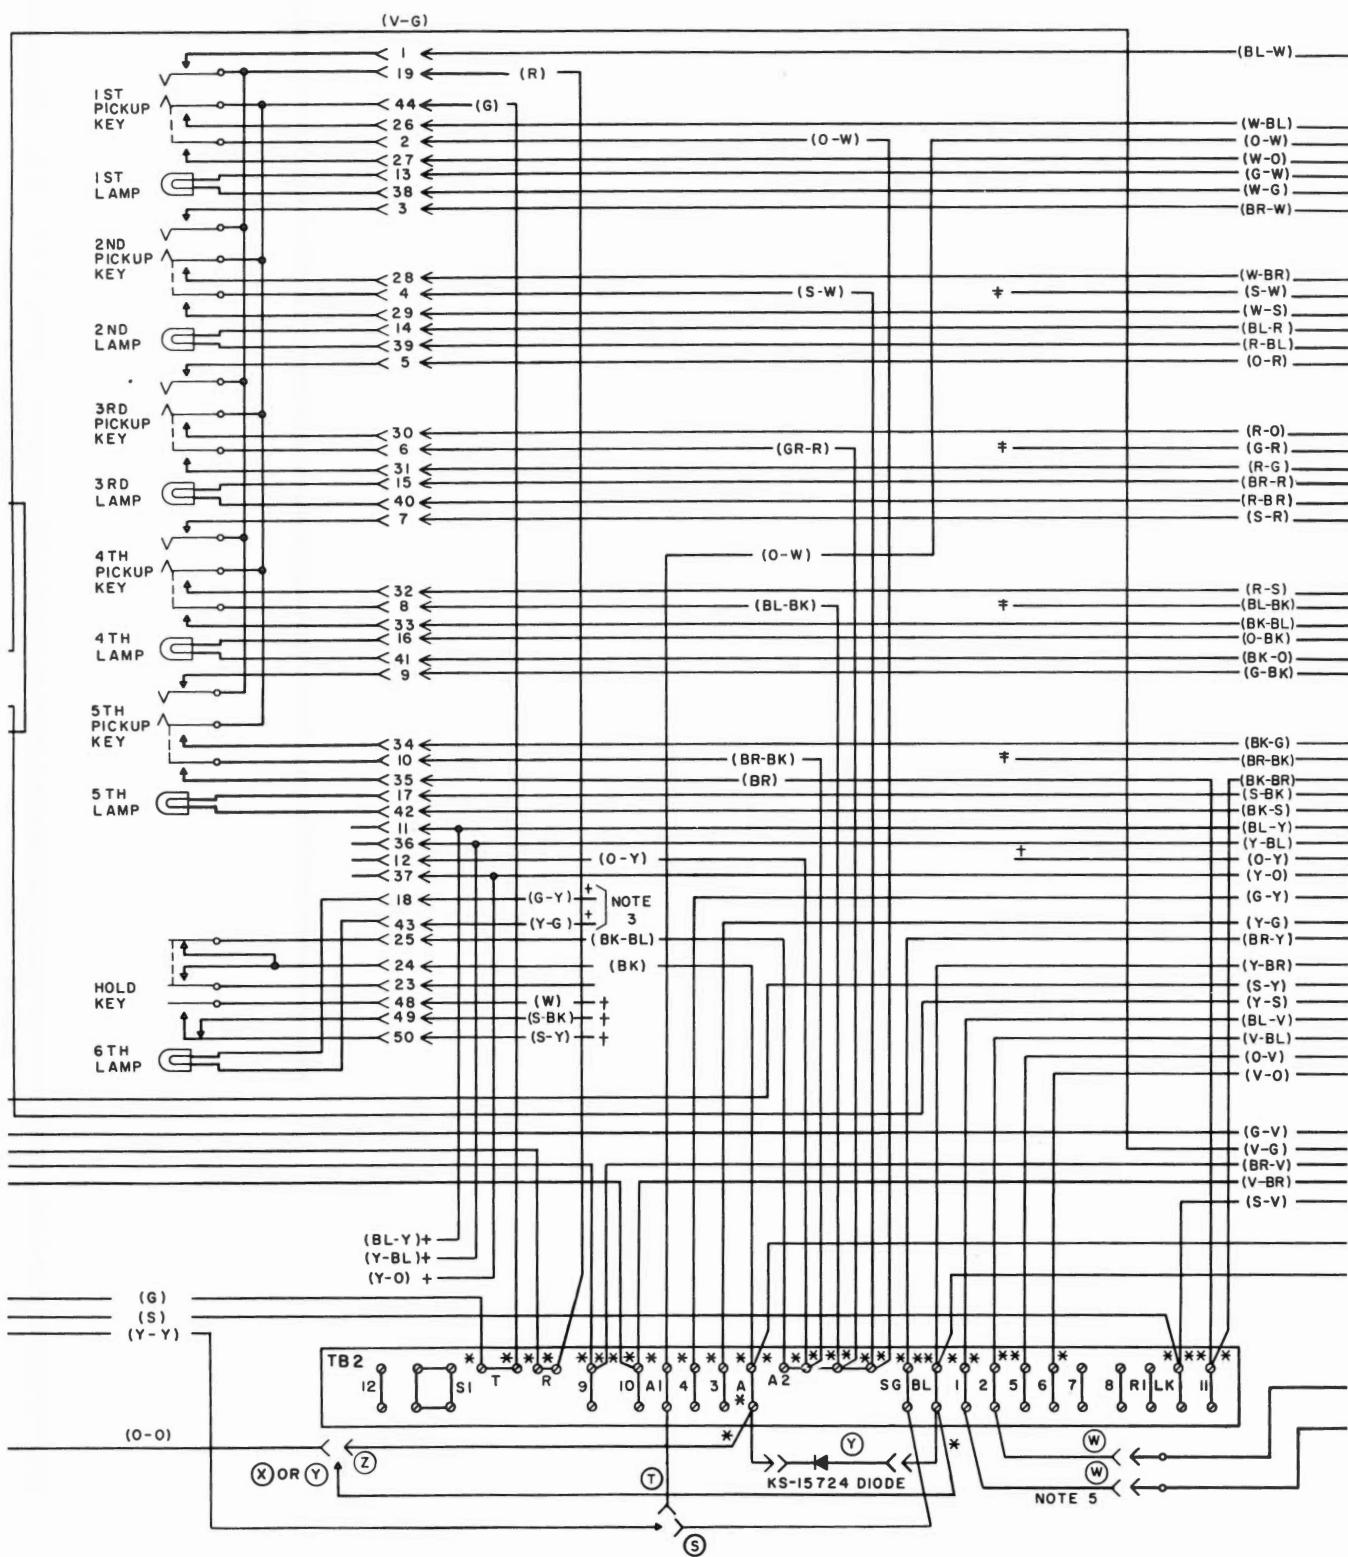

Fig. 5 – 661A1 Telephone Set with 599A Key
5.01 Connections for 661A1 with 599A key are shown in Fig. 5.
5.04 The schematic drawings (Fig. 5, 6, and 7) show only a portion of the 40A dial circuit. See section covering station dials, 40 type, for complete schematic drawing and description of dial.